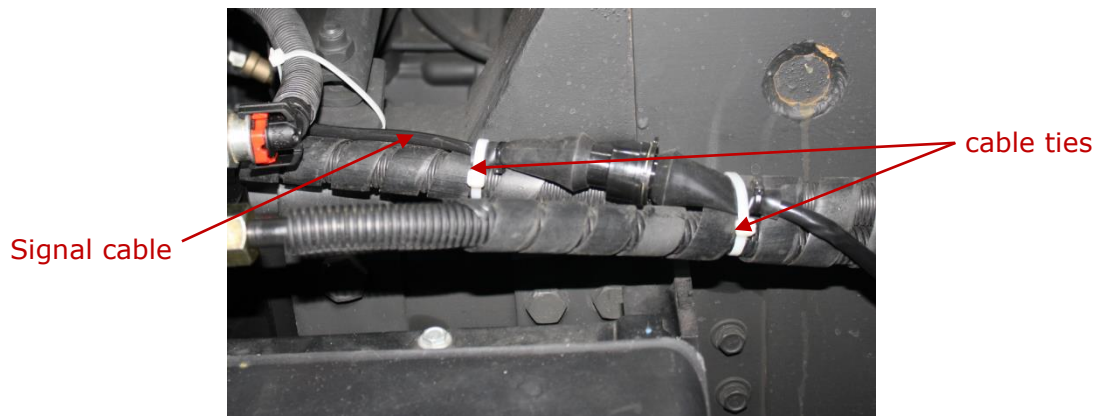

Figure 33 — Laying DUT-E CAN signal cable
- 5) It is **strongly recommended** to lay signal cable together with standard electrical Vehicle wiring with mandatory cable ties fixing of every 50 cm, at a positive ambient temperature (see figure 33).